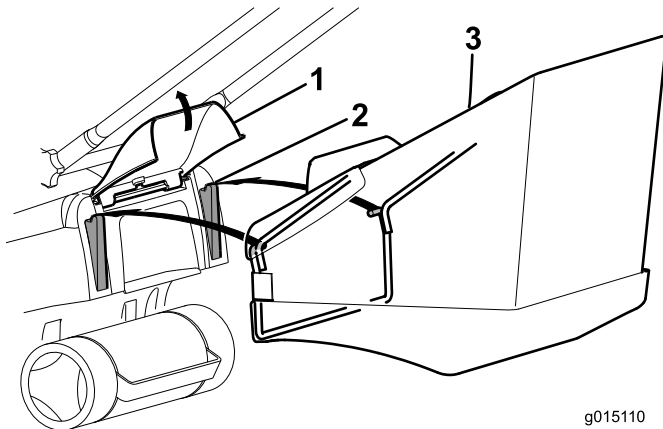

Figure 15
2. While holding up the rear door, install the grass bag onto the lugs (Figure 15).